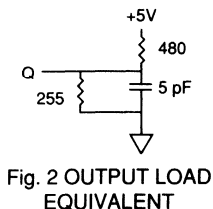

Fig. 2 OUTPUT LOAD EQUIVALENT
6. t^{HZCE} and t^{HZWE} are specified with CL = 5pF as in Fig. 2. Transition is measured ±500mV from steady state voltage.